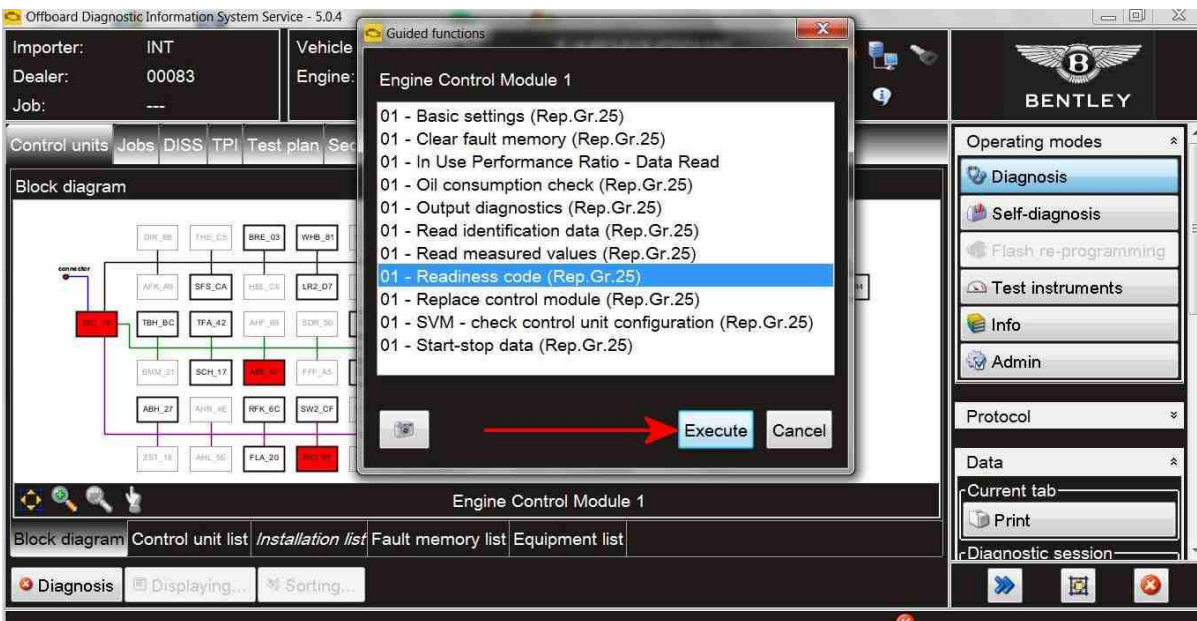

Figure 12
- Select Readiness code then press Execute (Figure 12)